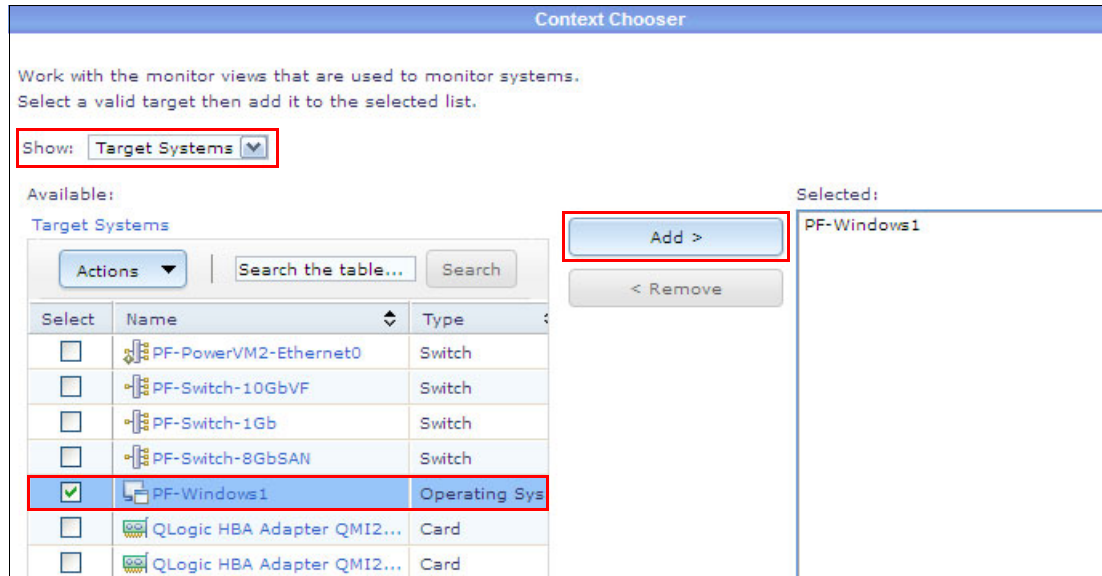

Figure 7-41 Monitors Context Chooser
3. Select **Target Systems** from the Show menu to see individual systems. Select the system to monitor (in this example, **PF-Windows1**) and click **Add** to add it to the Selected list, as shown in Figure 7-41. If needed, you can choose Groups of systems, instead of individual systems. Click **OK** to proceed.